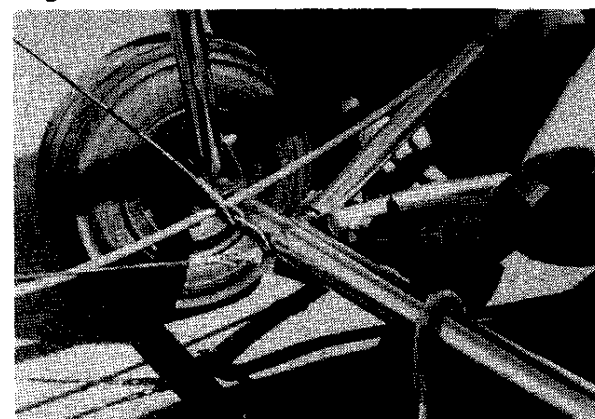

Figure 2.48
54. Attach right and left landing gear tension struts to inboard side of axle strut aft channels using (2) AN4-26's, washers, wingnuts and safety rings. Be sure to insert washer that goes between channel and strut. **Figure 2.48**